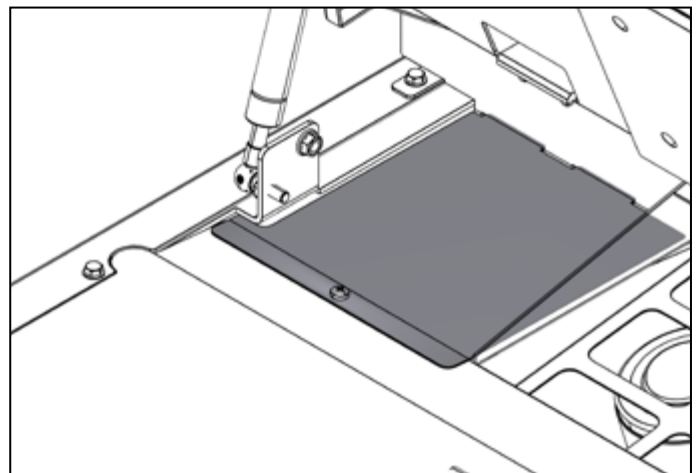

Figure 11-1: Location of access cover
- Open the hinged hopper lid. Undo the single screw and remove the access cover from the rear left corner of the boiler. Refer to Figure 11-1.